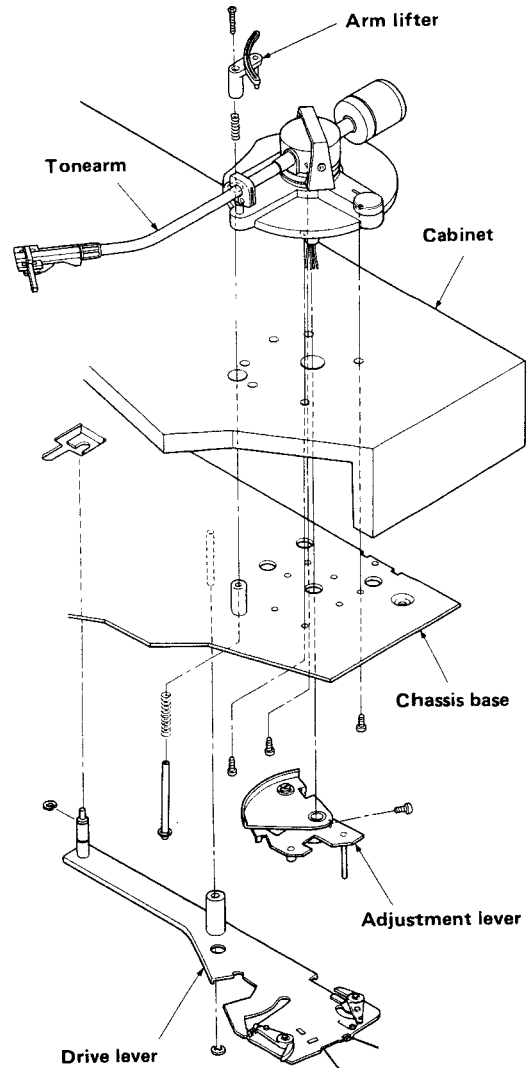

Fig. 3
- (1) Remove the bottom plate from the apparatus.
- (2) After removing the two E-rings(circlips) for the arm drive lever, pull out the lever from the post.
- (3) Remove the screw for the arm lifter and remove the spring.
- (4) Disconnect the output lead wires of the tonearm.
- (5) After loosening the screw with which the adjustment lever is fixed to the arm shaft, remove the adjustment lever.
- (6) Now, the tonearm can be removed when the three screws used for securing the tonearm are unscrewed. (Fig. 3)